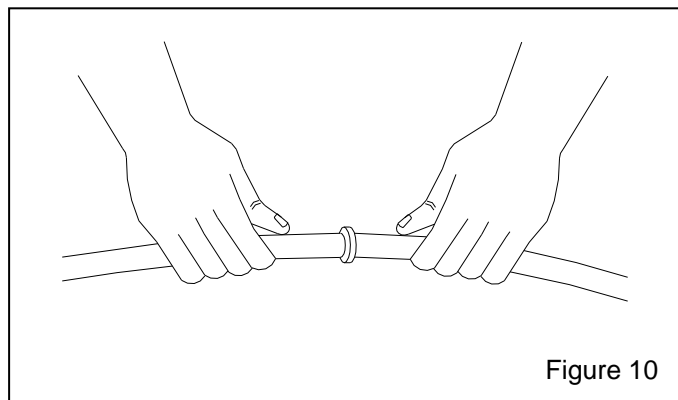

Figure 10
9.4.7.4 Remove the ends from the heated surface and quickly press them together as, shown in Figure 10.